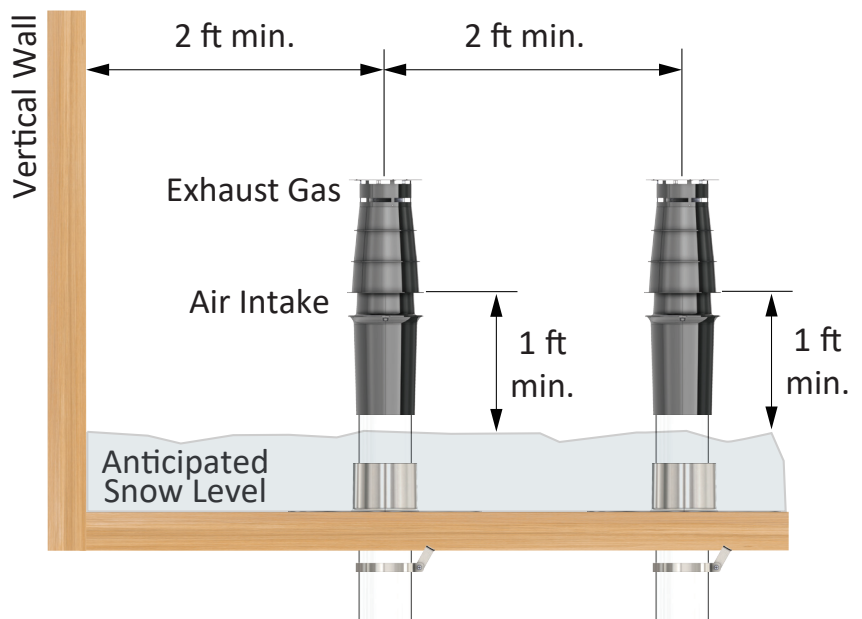

Figure 18 - Flat Roof Termination
- On the same level: 2 ft. spacing between each termination (Figure 18).
- The exhaust termination must be a horizontal distance of at least 2 ft. from a wall or surface unless specified differently by local code (Figure 18).